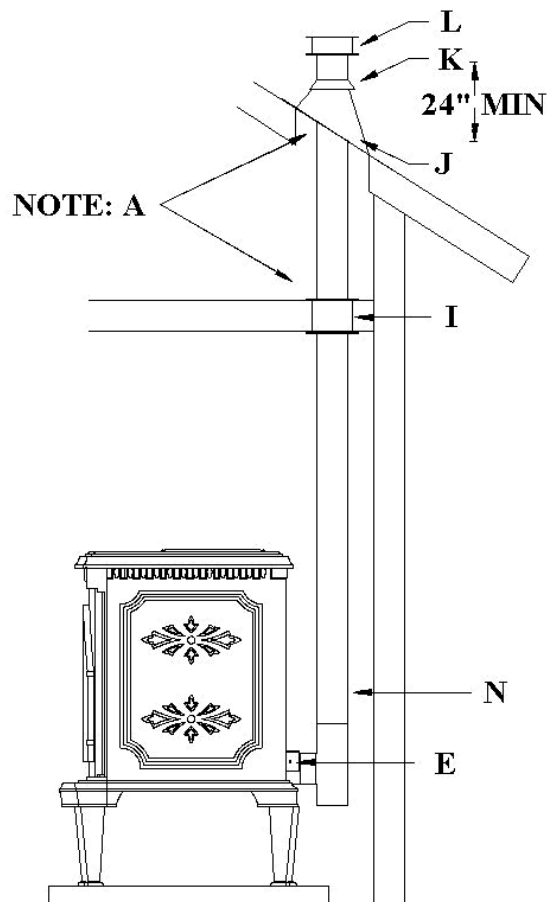

Figure 5
2. When extending through the roof, (Figure 5) install a PL vent fire stop (I) in the ceiling or in the eaves if the eaves are boxed in. Install roof flashing (J) and a storm collar (K). Extend the PL vent at least twenty-four inches (24") above the roof and terminate with a PL listed rain cap (L).